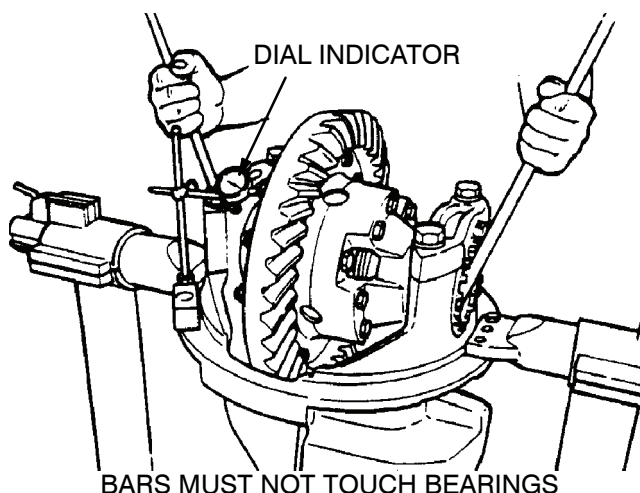

Figure 71.
- (1) Using dial indicator at back face of gear, loosen bearing adjusting ring on side opposite dial indicator only. Loosen enough to notice end play on indicator when moving with pry bars Refer to Figure 71.